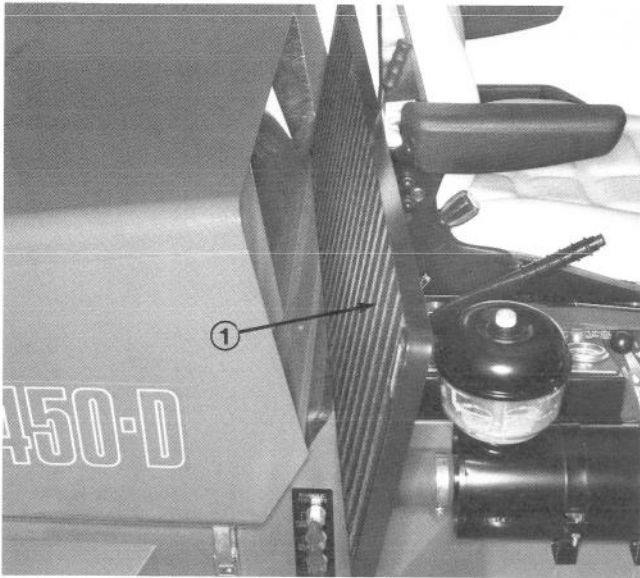

Figure 39
C. Remove front grill and clean it with compressed air (Fig. 39).